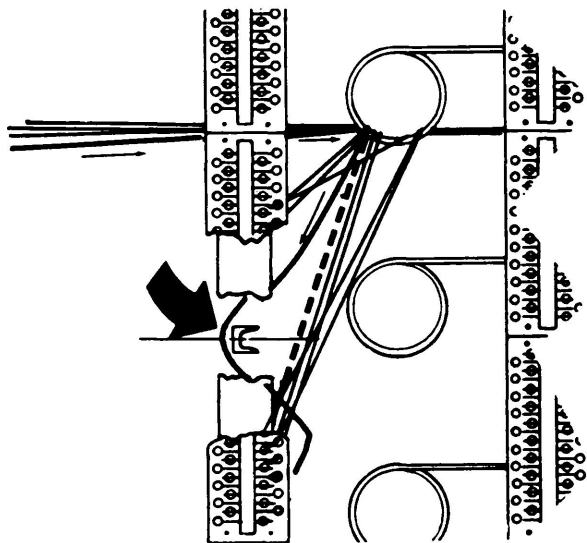

Figure 8. Large Arrow Points to Jumper Run Outside Vertical Ironwork. Broken Line Represents Correct Run.
5.10 Avoid weaving jumpers through existing jumpers or between the individual conductors of an existing jumper. Be sure to keep jumpers above the horizontal ironwork and inside the vertical ironwork of the frames (see Figure 8).